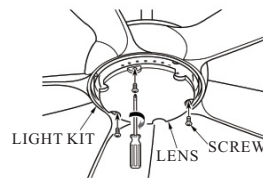

FIG.15
- 5.Attach the lens onto LED light kit. (see Fig.15)